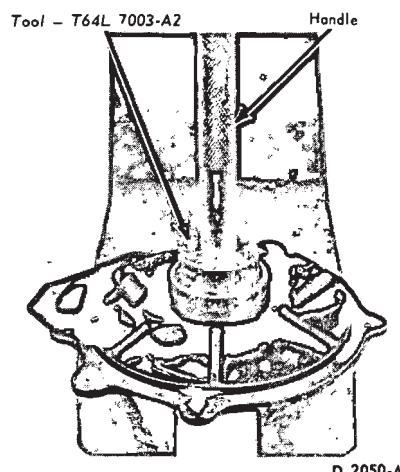

FIG. 45—Installing Rear Support Housing Bushing
3. Press a new bushing into the support housing with the tool shown in Fig. 45.